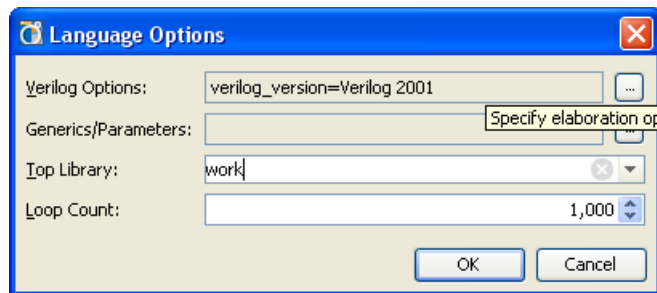

Figure 3-46: Language Options
- **Language Options** — Enter specific Verilog and VHDL options. These fields are shown in Figure 3-46.